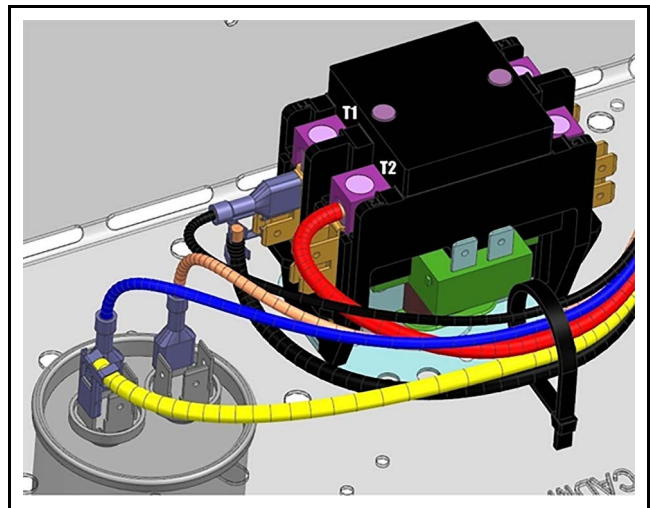

Fig. 19 Wiring at the Contactor and Capacitor (LM)
7. Perform the following at the compressor contactor, using the Smart Start harness (See Fig. 19):